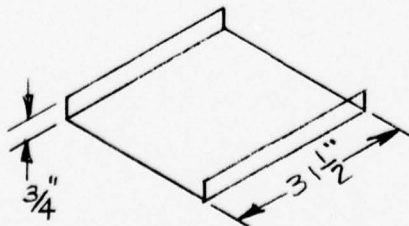

FIGURE 7 - FORMING CATHODE SCREEN
3. Bend the outer screen flush to the edge of the bar to form a 90° angle. Repeat steps 1, 2, 3. for other side as seen in Figure 7.